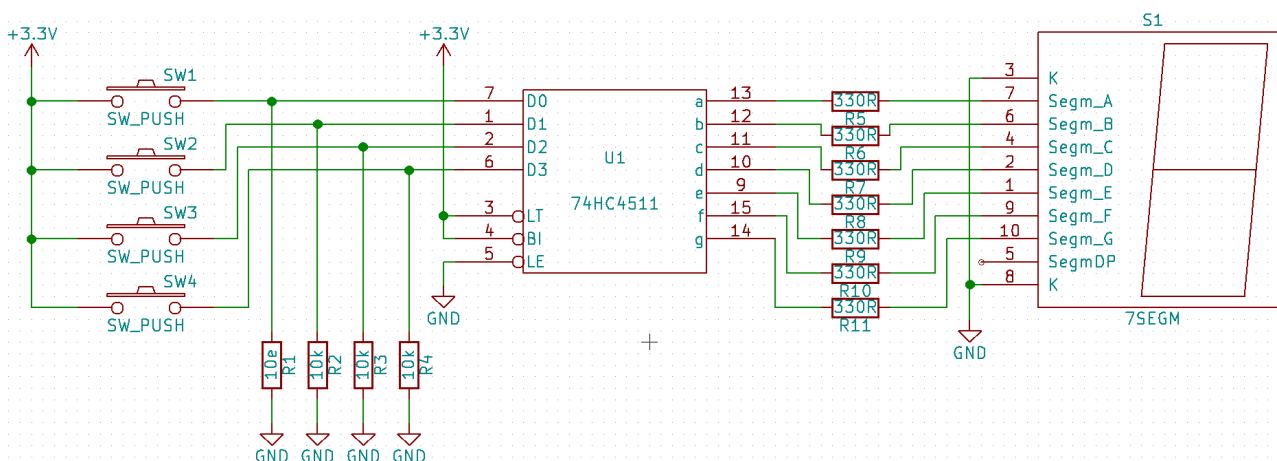
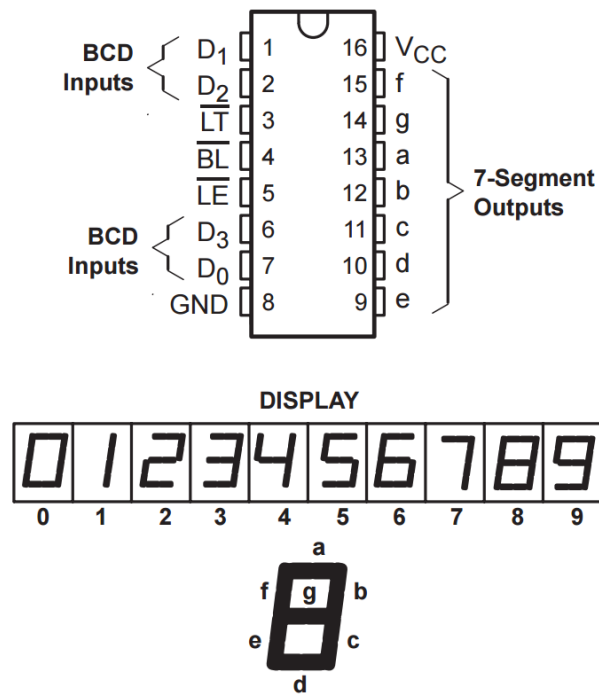
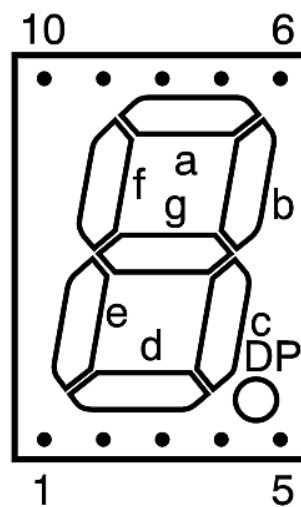
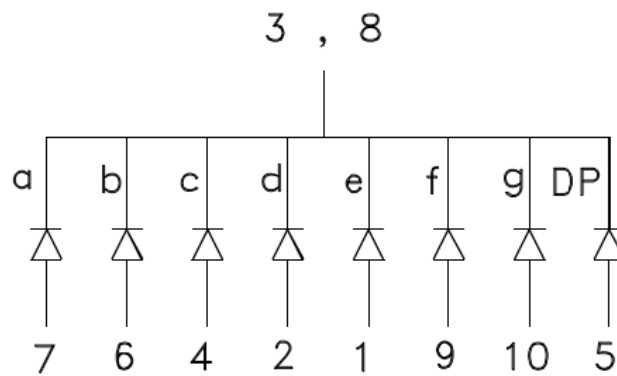

Figure 3: Full circuit schematic
Figure 4: CD74HC4511 Pinout
Figure 5: Pin numbering on the 7-segment display
Figure 6: Internal schematic of the 7-segment display. Note that the cathode (negative) of each LED is connected to a common point on pins 3 and 8.
2. Follow the schematic in Figure 3 to complete the following steps:
- b) Open the Lab 1 document and find the push button pinout shown in Figures 3 and 4.
3. Observing the schematic in Figure 3 and CD74HC4511 pinout in Figure 4 make the following connections:
- Observe Figure 5. Pins 3 and 8 of the 7-segment display are the common cathode pins, connect each of these to GND with jumper cables.
5. Following the schematic in Figure 3, CD74HC4511 pinout in Figure 4, 7-segment pinout in Figure 5 and 7-segment internal schematic in Figure 6 connect a $330\ \Omega$ resistor from each segment driver pin on the CD74HC4511 (a,b,...,g) to its respective input on the 7-segment display.